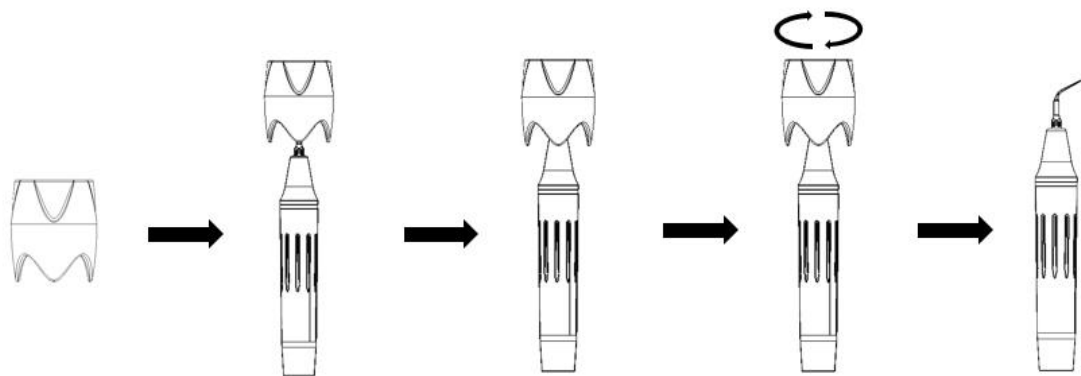

Figure 2.7
The design of torque wrench adopts a special structure, which can ensure the user can effectively load and unload the tip and protect the user's hand during use, and it can avoid be scratched by the tip when load and unload the tip(See Figure 2.7):
5) Fasten the tip to the handpiece with torque wrench (See Figure 2.7), and then